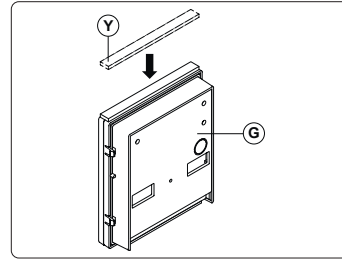

Fig. 8
Apply the (Y) seal as shown in **Fig. 8**.